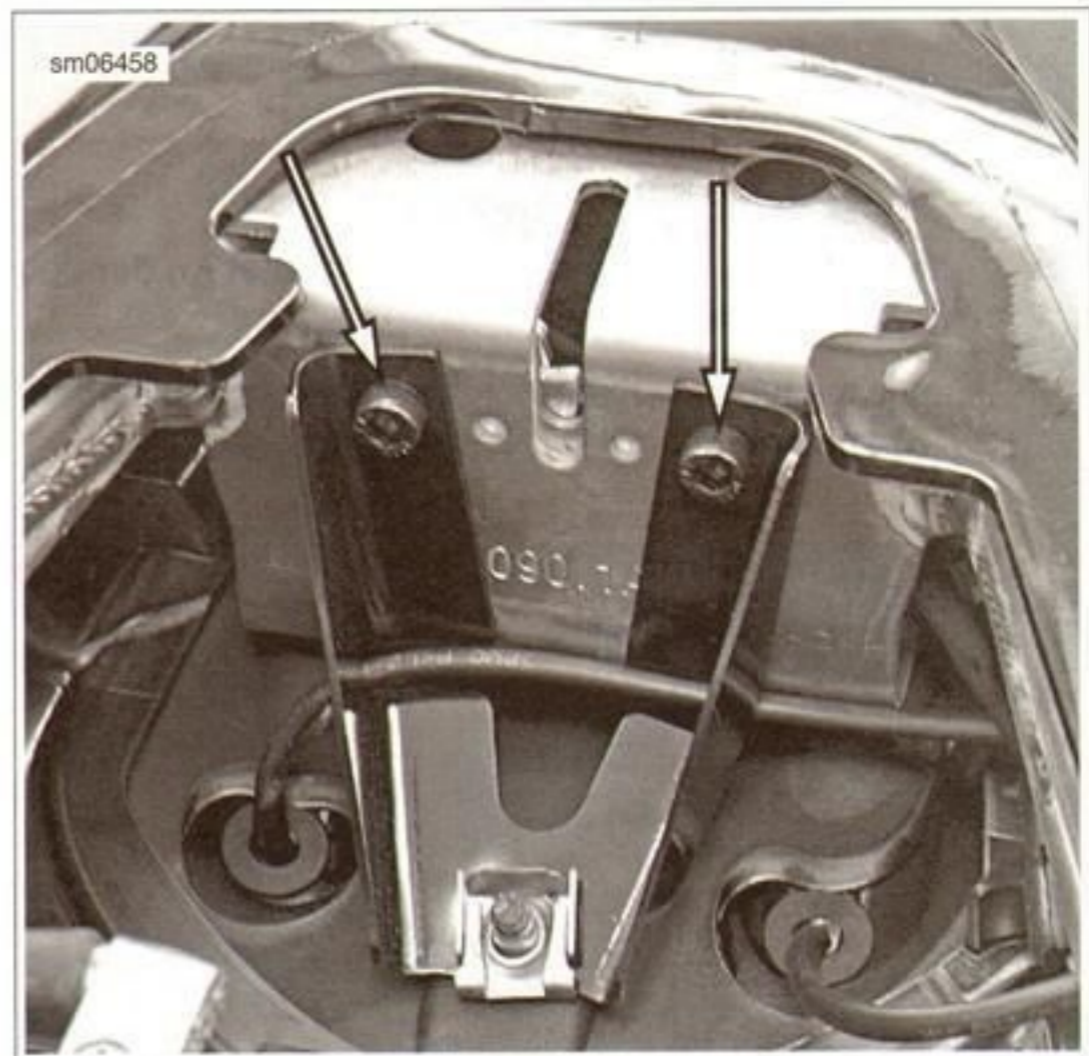

Figure 2-121. Pillion Latch Fasteners
6. See Figure 2-121. Remove the fasteners and the pillion latch. Remove the cable from the attachment clip.